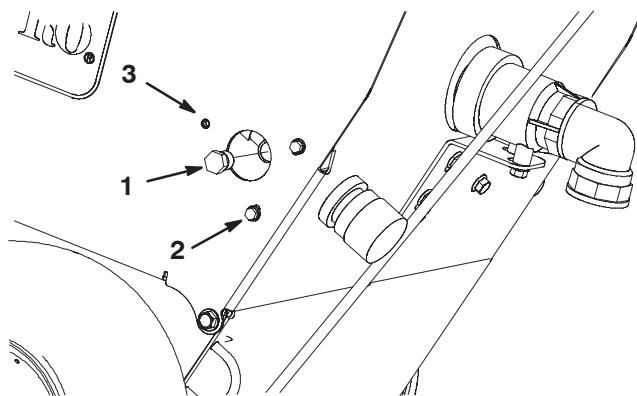

Figure 1
1. On the left side of the machine, remove the plastic plug from the pressure regulator (Fig. 1).